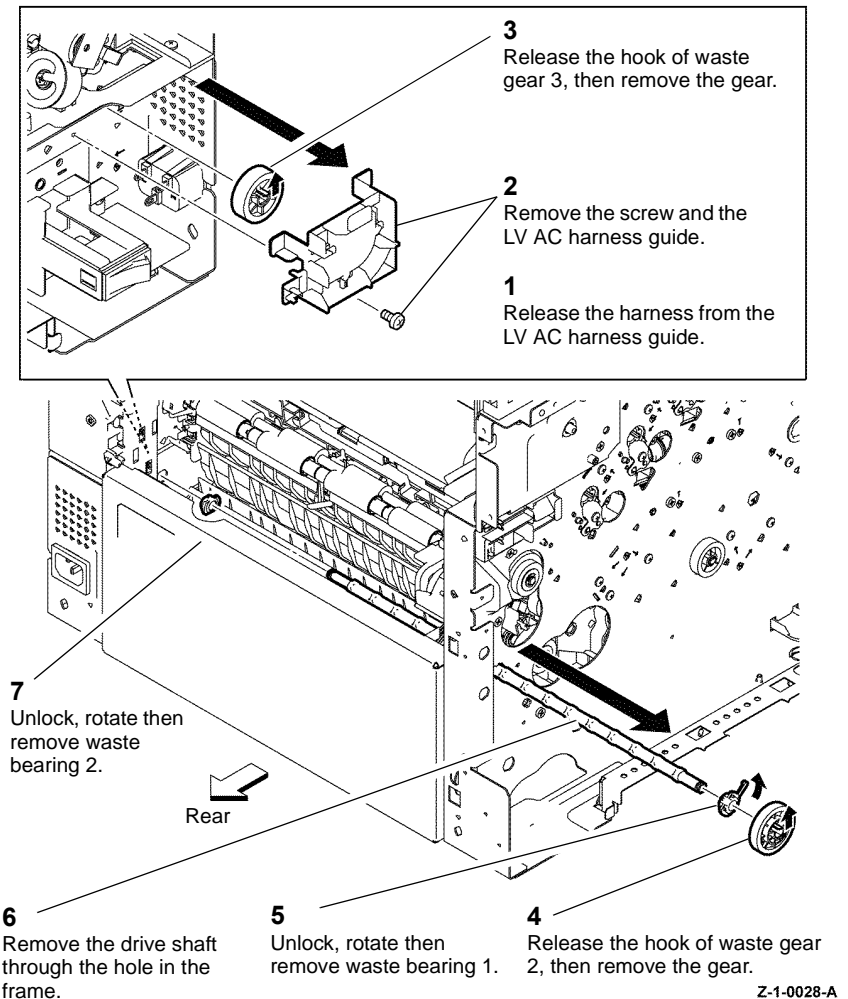

Figure 1 Remove the drive shaft assembly
3. Remove the drive shaft assembly, Figure 1.